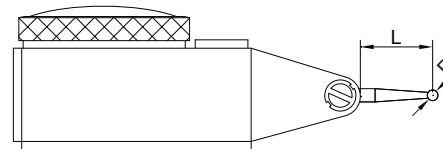

图6
3. Each type of dial test indicator has specific length of styli (L, fig.6). If the length is not correct, measurement error will result. Please refer to the table to choose correct styli series 6284.